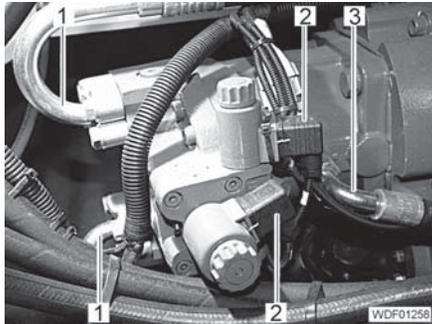

Fig. 257 Topside of the variable displacement motor
- Put each flange half for securing the high pressure lines (Fig. 257,1) into position and loosely screw in 2 screws with spring lock washers.
- Screw the hydraulic line of the cross flushing connection (Fig. 257,3) onto the connection on the variable displacement motor and tighten.
- Plug the connectors (Fig. 257,2) onto the solenoid valves and secure with 1 screw for each.